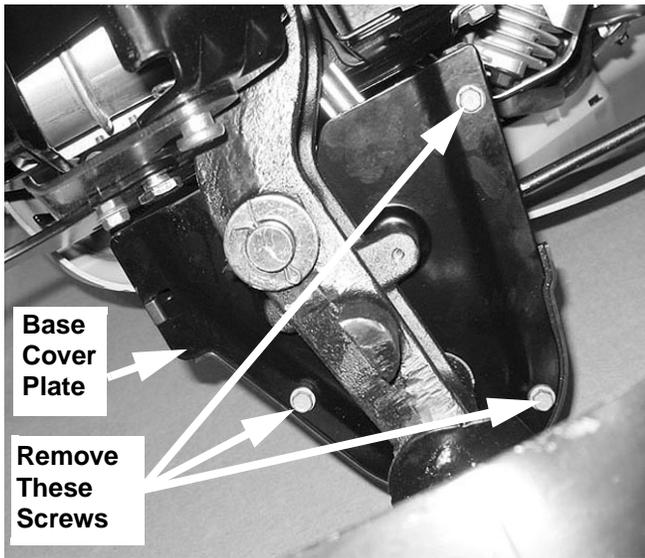

FIGURE 21
36. Remove the three (3) screws securing each front wheel steering gear plastic cover to the base cover plate. Remove the plastic covers. See Figure 21.